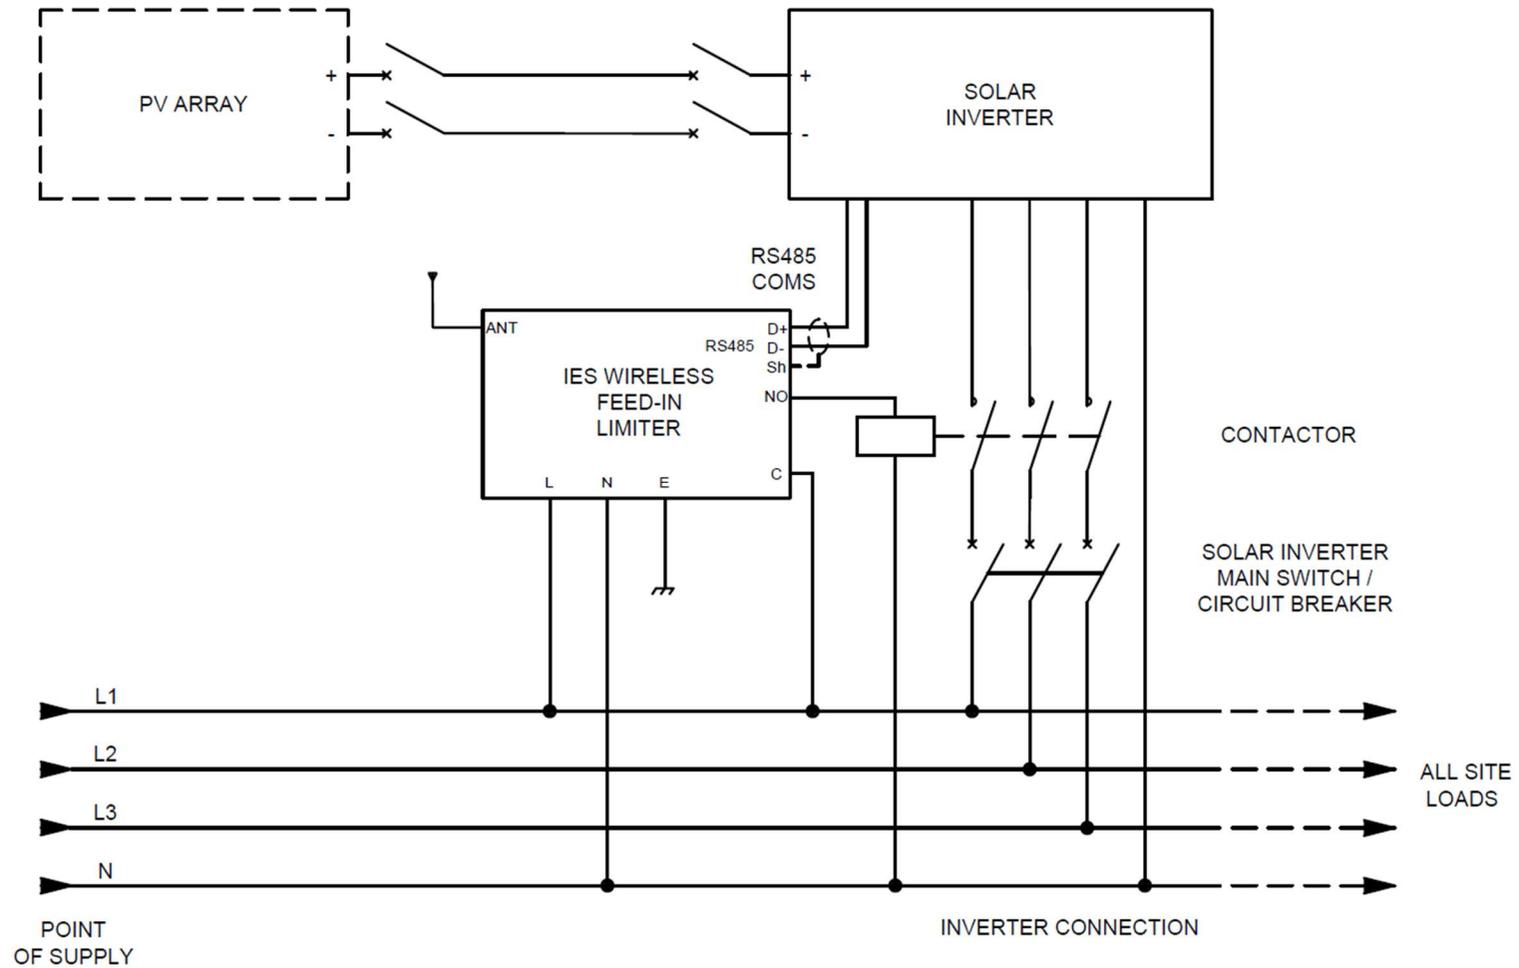

Figure 2 - Installation Topology
The NO (normally open) and C (common) terminals are supplied as dry contacts to control inverter contactors. Appropriate control voltage must be wired to the common (C) terminal to power contactor coils, wired as normally open. Refer to Figure 2 - Installation Topology.
Terminals 3-5 in the connection terminals are used for the RS485 interface to the inverter. Use 0.25mm² (minimum) twisted pair, shielded cable. Refer to Figure 2 - Installation Topology for correct wiring configuration at the WFIL end. Refer to inverter documentation for wiring configuration at the inverter end. For multiple inverter applications, a parallel connection of RS485 cable looping to each inverter is required.